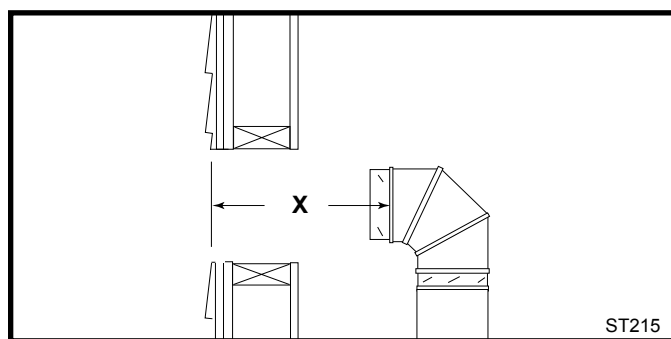

Figure 26 Measure the horizontal length.
7. Measure, and cut if needed, the appropriate length of pipe section needed to make the connection through the wall. Include a 2" overlap; i.e. from the elbow to the outside wall face, about 2" or the distance required if installing a second 90° elbow. (Figure 26)